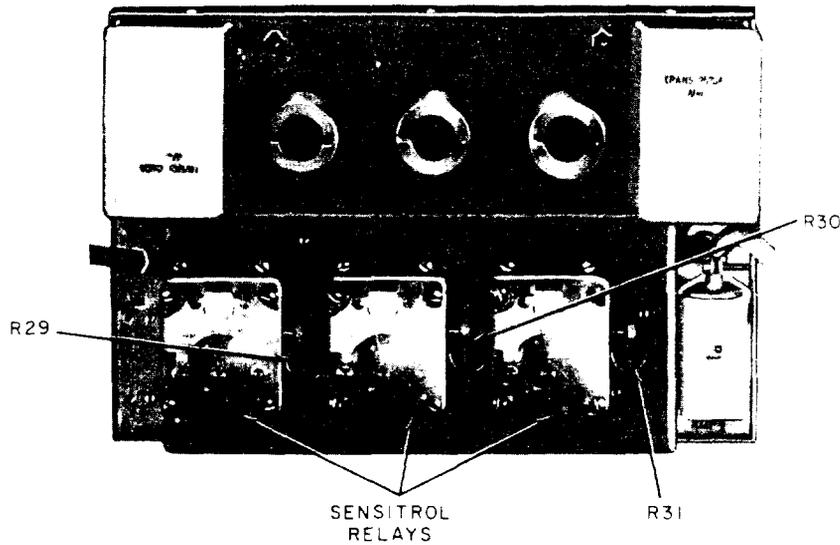

Fig. 1—J68829A Flat Gain Amplifier A
3.01 The J68829A (Fig. 1) and J68829B flat-gain amplifiers are separate units. The amplifiers consists of three 404A electron tubes, three Sensitrol* relays, and three miniature potentiometers.